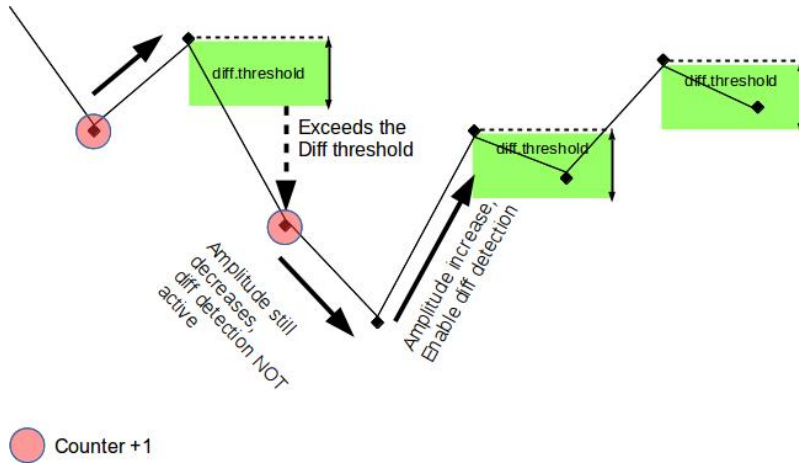

Figure 14: Details of differential threshold detection.
- Count does not increase when amplitude is falling continuously. After a detected loss, the amplitude must raise for at least 1 sample before difference threshold is checked again. See Figure 14 for details.